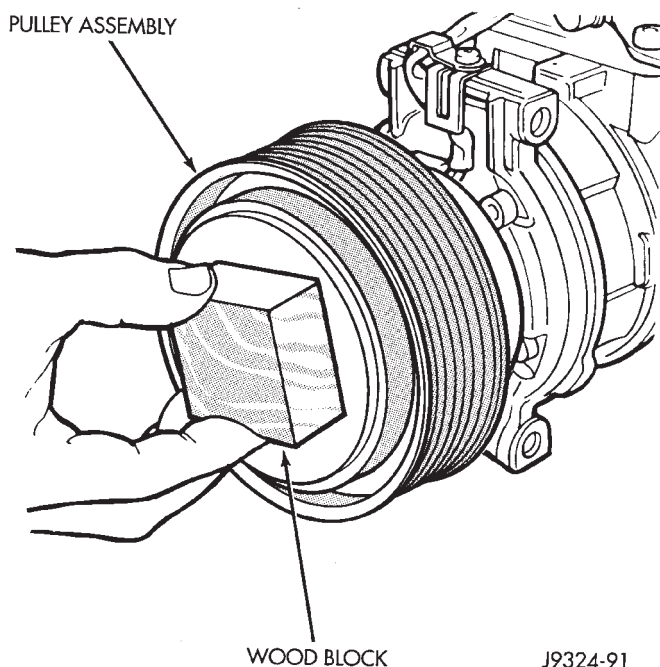

Fig. 25 Pulley Assembly Install
(4) Install the pulley assembly onto the compressor. If necessary, place a block of wood on the friction surface and tap gently with a hammer (Fig. 25).